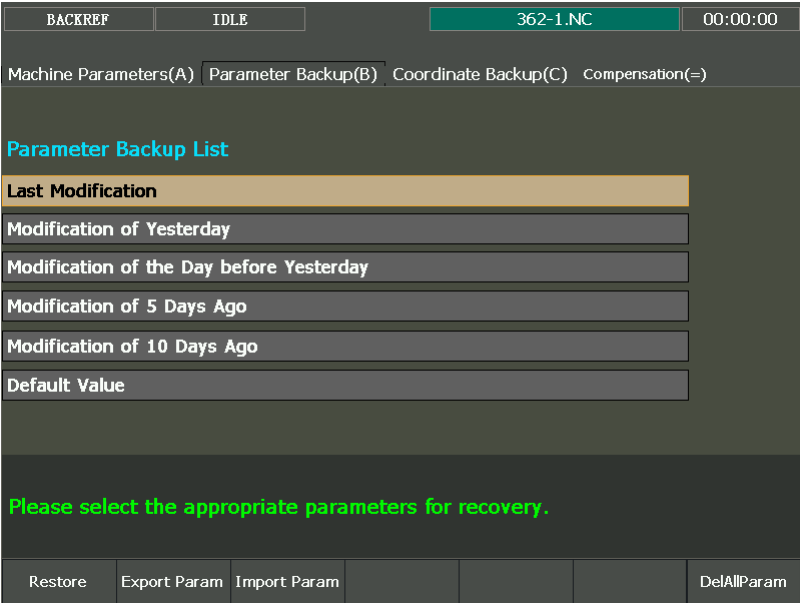

Fig. 3-74 Parameter auto backup
[Parameter Backup (B)] sub-function screen under [Parameter] function area is as shown in Fig. 3-74: in this screen, press “↑” and “↓” direction keys to select an effective backup parameter, and then press F1 and F7 to restore or delete the selected backup parameter. By pressing F2 and F3 respectively, the selected backup parameter can be exported to the USB device or the parameter in the USB device can be imported to the system.